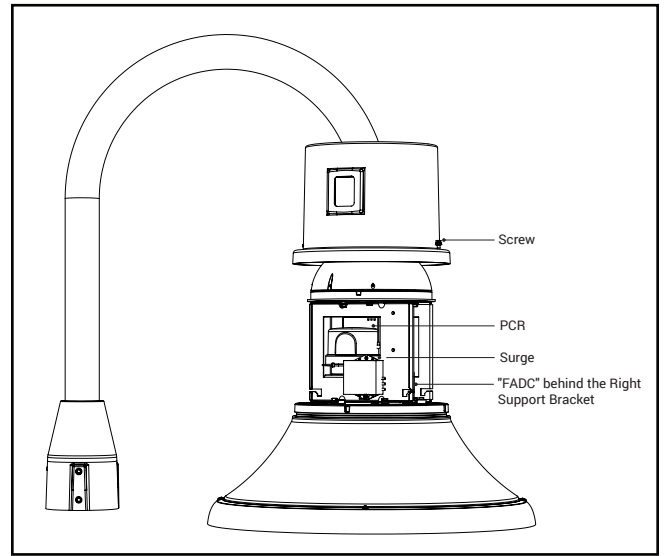

Figure 6.
9. Tighten set screws (4) that are around the Rotate Cover. Tighten the set screws in a star pattern to assure the fixture is pulled up into position. Torque all screws to 15 in-lbs. Do not over tighten the set screws.
10. For HTN (Tall fixture) only. The Service Lift up Cover is removed by loosening the two 1/4" hex head captive screws (Figure 6).